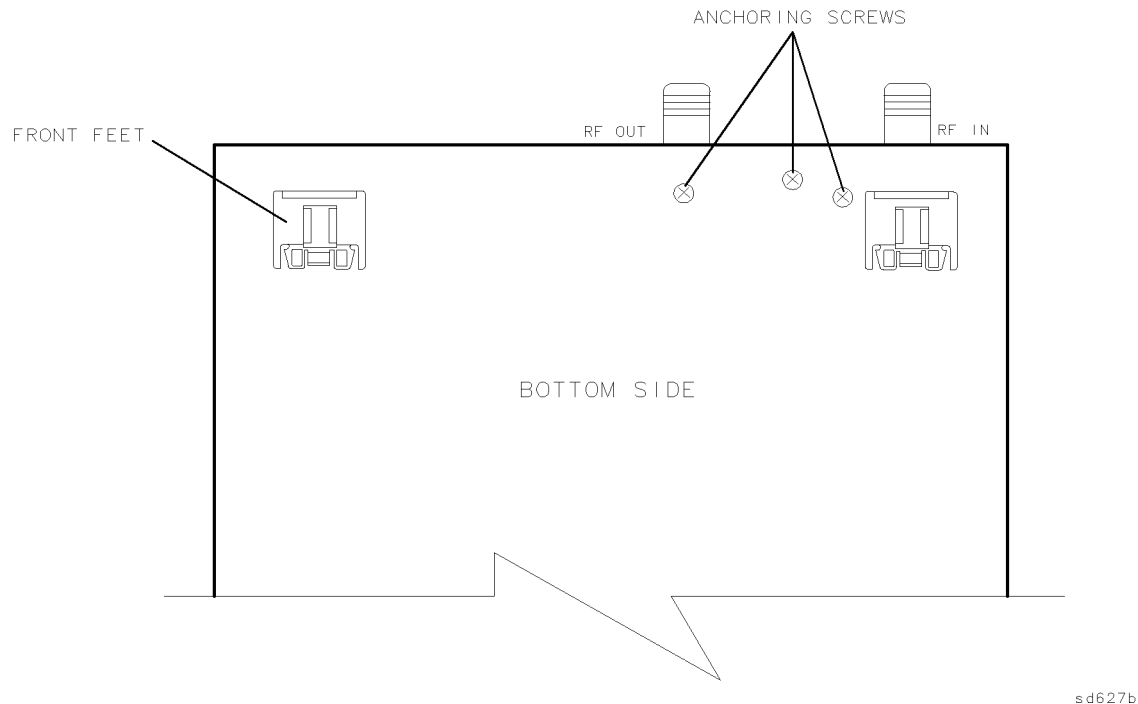

Figure 3-6. Anchoring Screw Locations for A5 Receiver Removal
4. Remove the three anchoring screws on the bottom of the analyzer. See Figure 3-6.